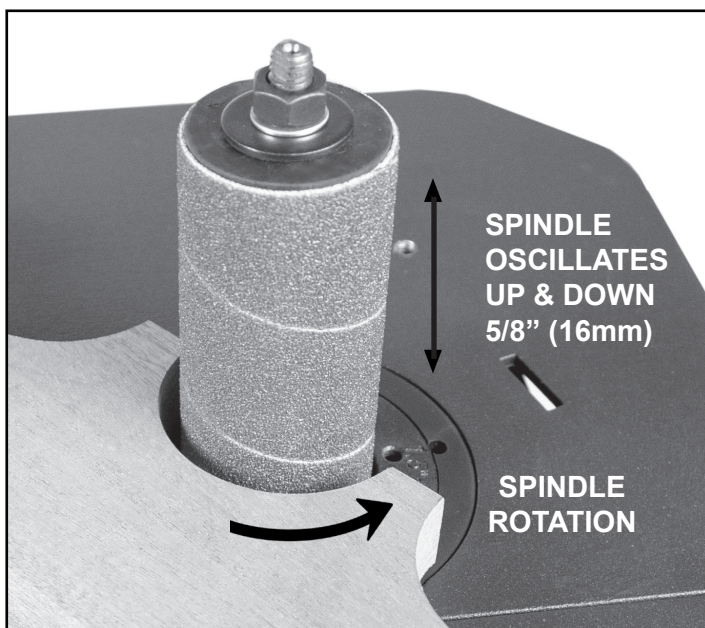

FIG. 11
2. Looking from the front of the machine, the motor turns in a counterclockwise direction. Feed the work across and with the direction of the spindle rotation. FIG. 11.